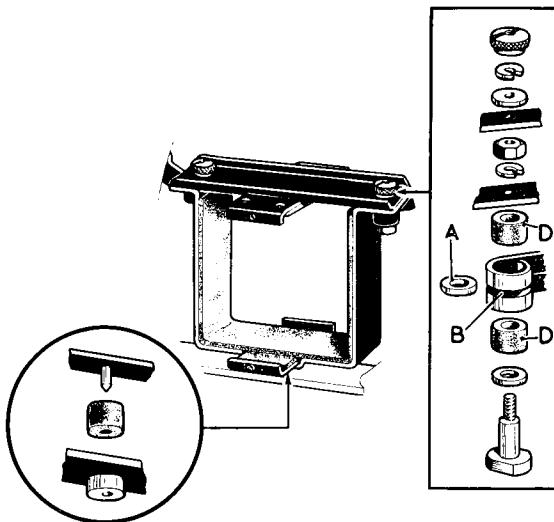

FIG. D.9. *Battery carrier.*
If the carrier is removed for any reason it is essential that the reassembly is carried out in the order shown in Fig. D.9. The plain washer (A) fits into slot (B) with rubber bushes (D) on each side.